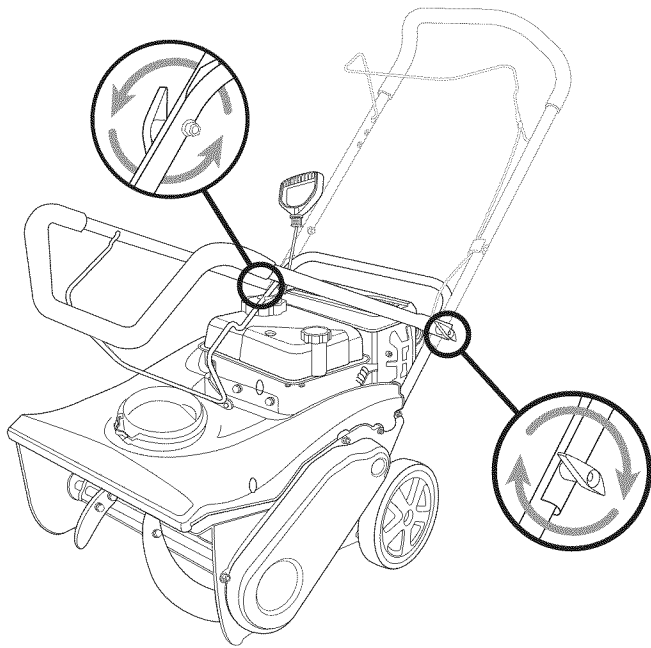

Figure 2-3
2. Tighten the wing knobs to secure the handle in place (see Fig. 2-3).